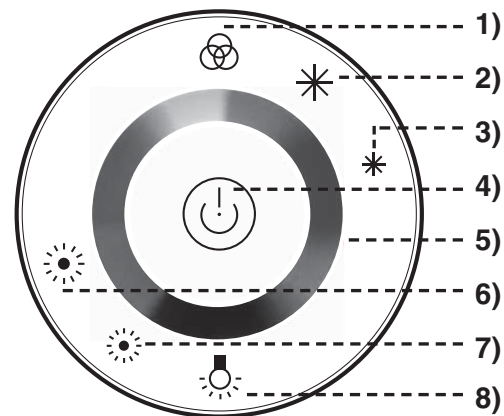

Fig. 35-1 Remote transmitter detail
Prior to remote transmitter use, familiarize yourself with the transmitter keys as illustrated in Fig. 35-1 and the mode options in Fig. 35-2.
2. Press the ON/OFF key on the remote transmitter to turn the light on or off (see Fig. 35-1).
3. Use the remote as desired. Reference the above section and Fig. 35-1 and 35-2.